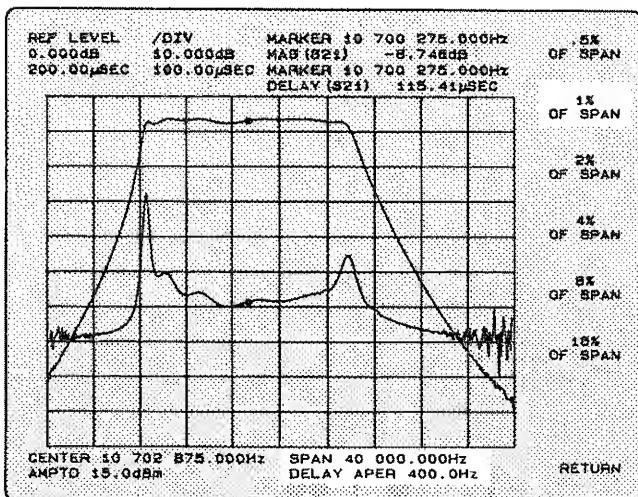

Figure 4-11
**DELAY APERTURE** is a softkey label that is created in the **DISPLAY FUNCTION** menu when **DELAY** is selected. Delay aperture is the frequency span over which the HP 3577A evaluates phase and calculate group delay. This frequency span is in percent-of-span; the selections include .5%, 1%, 2%, 4%, 8%, and 16%. The selected aperture appears below the lower-right corner of the graticule in Hertz when the active trace is group delay. See Figure 4-11.